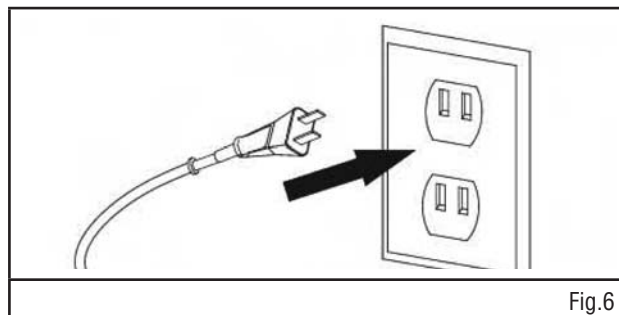

Fig.6
6. Plug the unit into an outlet. (Fig. 6)